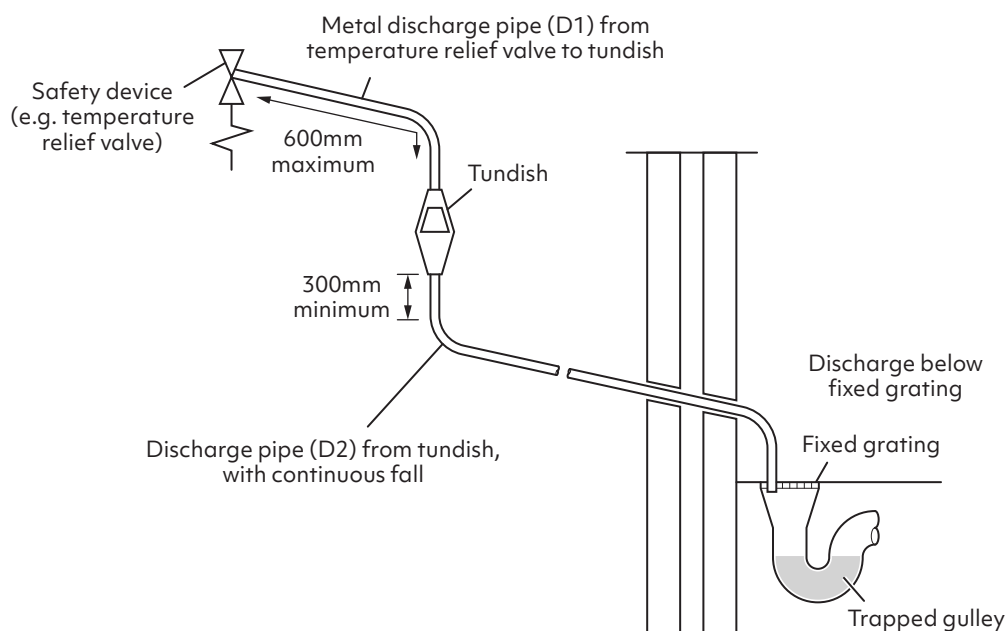

Fig. 9
- Safety devices such as temperature relief valves or combined temperature and pressure relief valves should discharge either directly or by way of a manifold via a short length of metal pipe (D1) to a tundish (Fig. 9).
- The discharge pipe (D2) from the tundish should have a vertical section of pipe at least 300mm long below the tundish before any elbows or bends in the pipework. It should be installed with a continuous fall of at least 1 in 200 (Fig. 9).